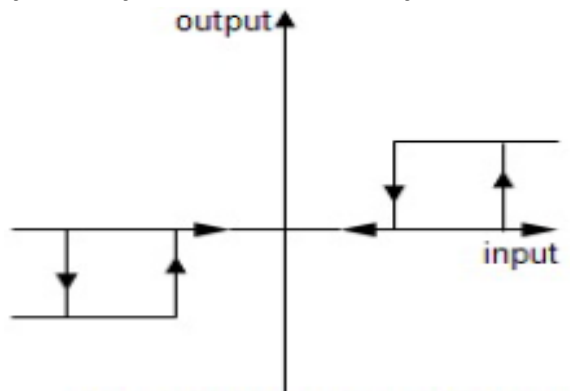

Fig. Q2
Consider the 3-position relay with hysteresis nonlinearity shown in Fig. Q2:
- Obtain the describing function for the nonlinearity shown in Fig. Q2.
- Using **MATLAB**, simulate the nonlinearity shown in Fig. Q2 and obtain the resultant output.